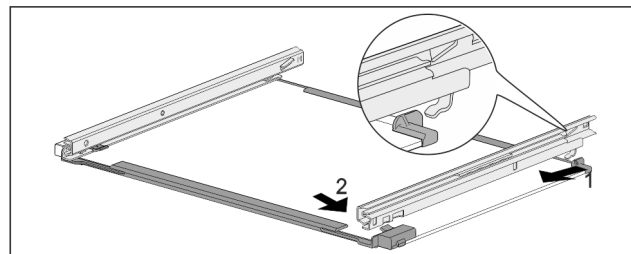

Fig. 105 Glass shelf with rails
- Hook in rail at the back. Fig. 105 (1)
- Hook in rail at the front. Fig. 105 (2)